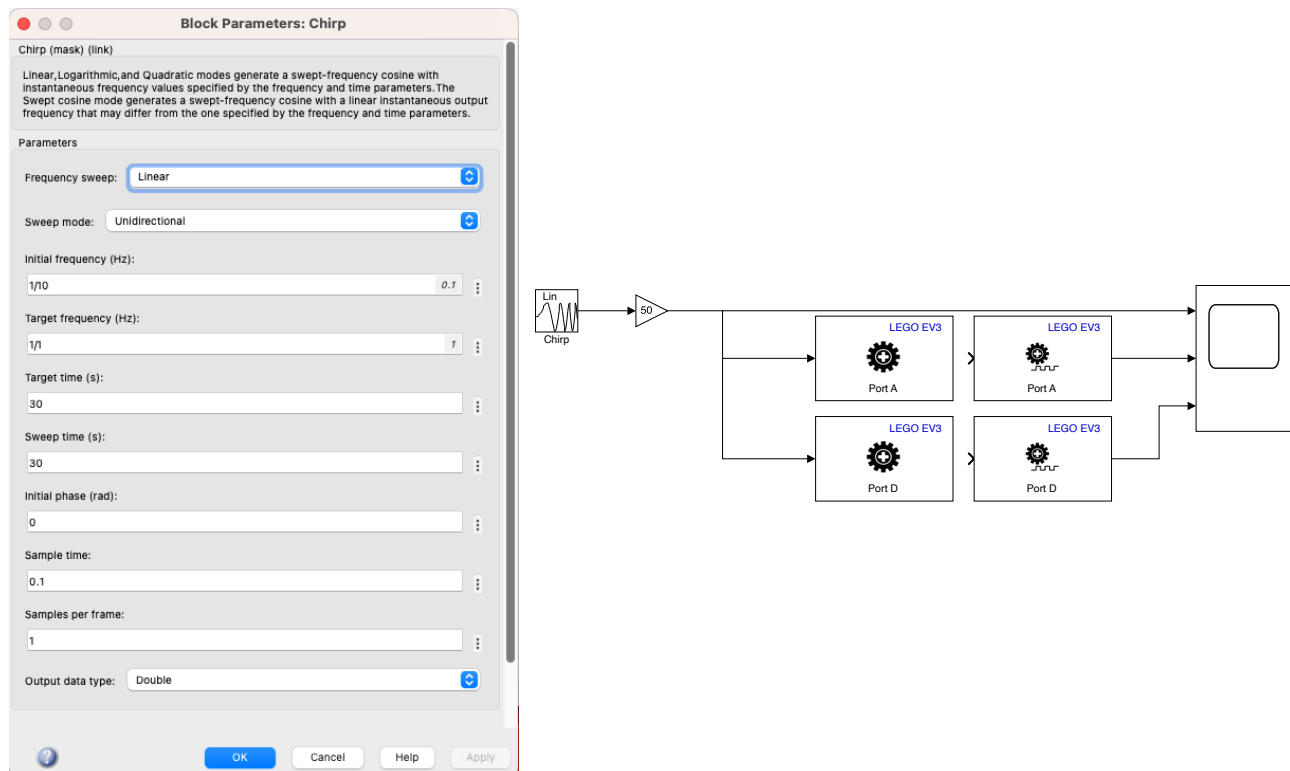

Figure 1: Simulink model to generate input/output data from the system.
- Build the model depicted in Fig. 1.
- Select the parameters of the chirp block as depicted in Fig. 1.